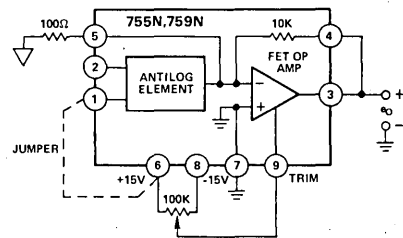

Figure 5. Trimming  $E_{OS}$  in Antilog Mode
**Offset Voltage ( $E_{OS}$ ) Adjustment** – Although offset voltage of the antilog circuit may be balanced by connecting it in the log mode, and using the technique described previously, it may be more advantageous to use the circuit of Figure 5. In this configuration, offset voltage is equal to  $e_{OUT}/100$ . Adjust for the desired null, using the 100k trim pot. After adjusting, turn power off, remove the external 100 $\Omega$  resistor, and the jumper from Pin 1 to +15V. For 755P, 759P use the same procedure but connect Pin 1 to -15V.